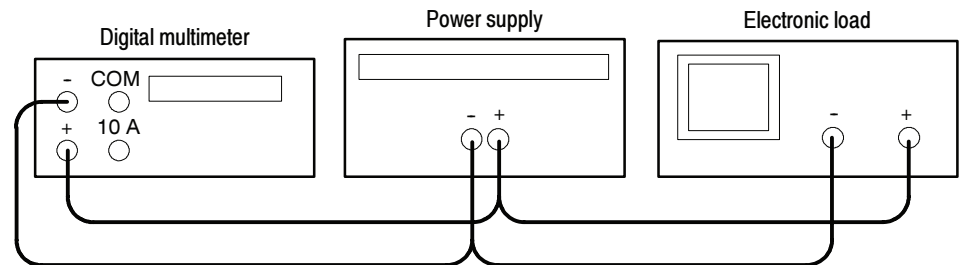

Figure 2: Constant voltage load test setup
2. Ensure that the power supply output is disabled. Connect the DVM and electronic load to the front panel OUTPUT 1 terminals. See Figure 2 for details.
6. Enable the electronic load. Adjust the load until the power supply CURRENT (A) readout indicates 1.500 A.
11. Ensure that the power supply output is disabled. Remove the leads from the front panel OUTPUT 1 terminals and connect them to the OUTPUT 1 terminals on the rear of the instrument. Maintain the equipment configuration and polarities shown in Figure 2.
15. Ensure that the power supply output is disabled. Connect the DVM and electronic load to the front panel OUTPUT 2 terminals. Maintain the equipment configuration and polarities shown in Figure 2.
17. Ensure that the power supply output is disabled. Remove the leads from the front panel OUTPUT 2 terminals and connect them to the OUTPUT 2 terminals on the rear of the instrument. Maintain the equipment configuration and polarities shown in Figure 2.
2. Ensure that the power supply output is disabled. Connect the DVM and electronic load to the front panel OUTPUT 2 (+) and OUTPUT 1 (-) terminals. Maintain the equipment configuration and polarities shown in Figure 2.
6. Ensure that the power supply output is disabled. Remove the leads from the front panel OUTPUT 2 and OUTPUT 1 terminals and connect them to the OUTPUT 2 (+) and OUTPUT 1 (-) terminals on the rear of the instrument. Maintain the equipment configuration and polarities shown in Figure 2.
2. Ensure that the power supply output is disabled. Connect the DVM and electronic load to the front panel OUTPUT 2 terminals. Maintain the equipment configuration and polarities shown in Figure 2.
6. Enable the electronic load. Adjust the load until the power supply CURRENT (A) readout indicates 3.000 A.
11. Ensure that the power supply output is disabled. Remove the leads from the front panel OUTPUT 2 terminals and connect them to the OUTPUT 2 terminals on the rear of the instrument. Maintain the equipment configuration and polarities shown in Figure 2.
2. Ensure that the power supply output is disabled. Connect the DVM and electronic load to the front panel OUTPUT 3 terminals. Maintain the equipment configuration and polarities shown in Figure 2.
11. Ensure that the power supply output is disabled. Remove the leads from the front panel OUTPUT 3 terminals and connect them to OUTPUT 3 on the rear of the instrument. Maintain the equipment configuration and polarities shown in Figure 2.